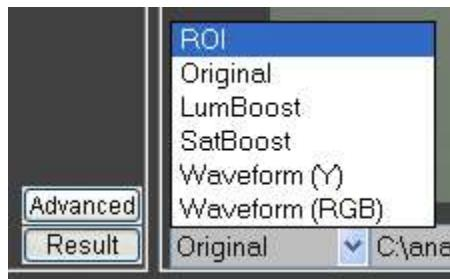

Figure 61. Screenshot of Shading Image Mode Display Options
4. In the **Image** mode, the first button under the **Results** image space has 6 options (see Figure 61):
- e. **WAVEFORM (Y)** - Shows Luminance waveform of camera image